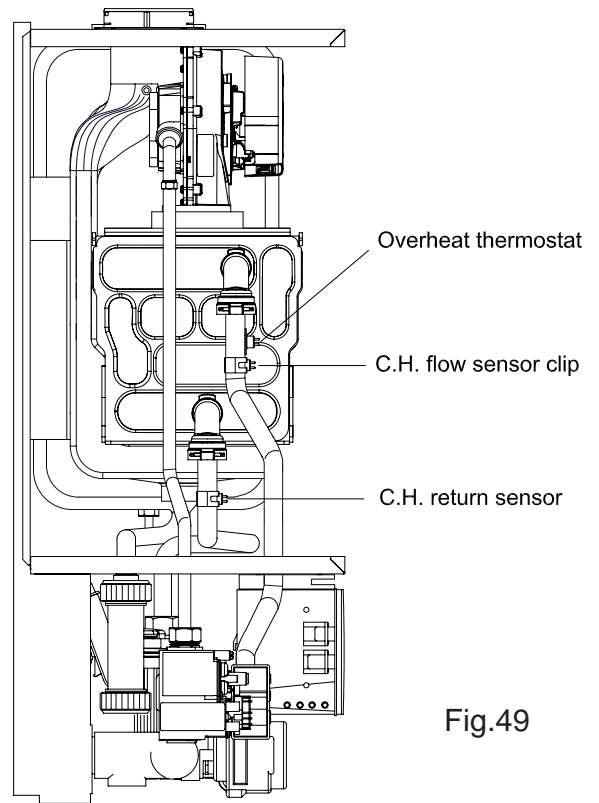

Fig.49
**8.20 TO REMOVE/REPLACE C.H. FLOW AND RETURN SENSORS (Fig. 49)**